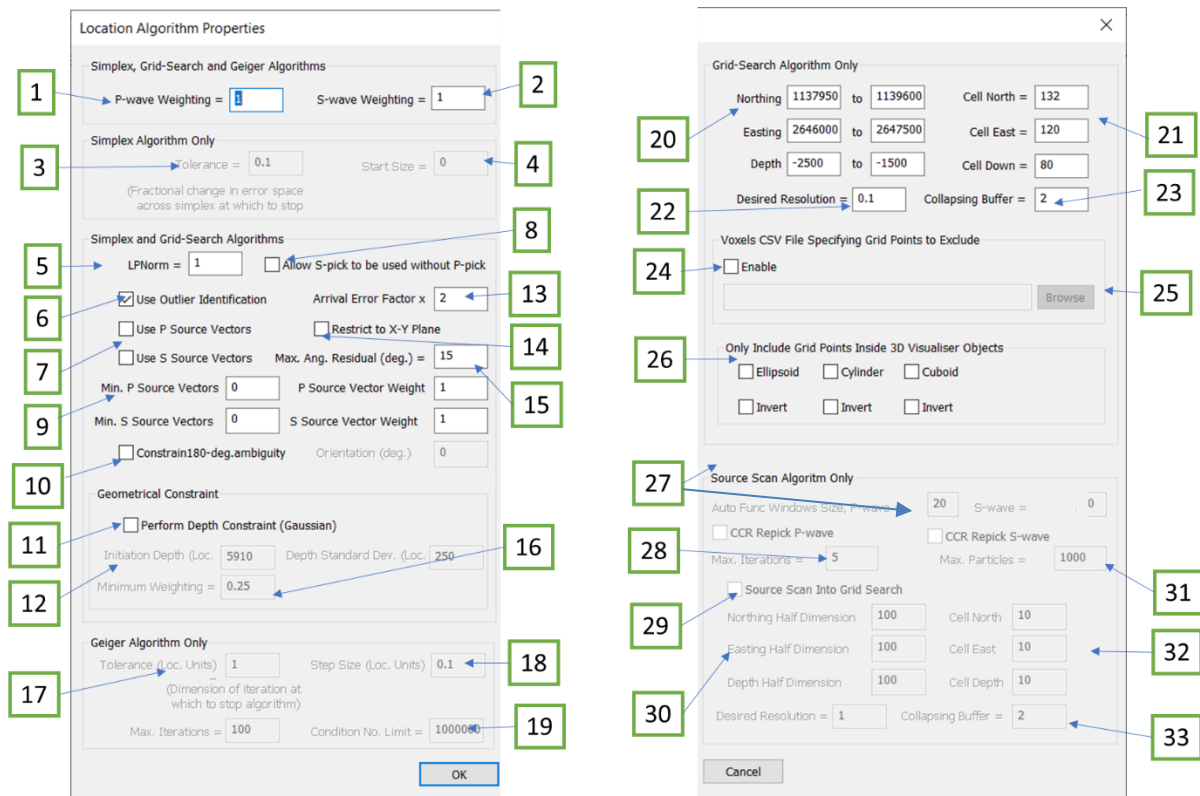

Figure 5-52: The configuration parameters on the Location Algorithm Properties Dialog box.
2. Click on the Algorithm Settings button to display the configuration parameters for the selected algorithm (Figure 5-52). See below and the Technical Appendices (section 3.1) for a description of these parameters and their use in the source location algorithms.